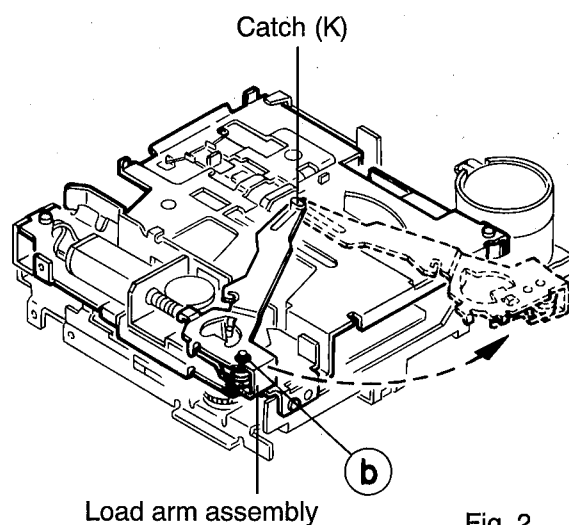

Fig. 2
■ Removing the Load Arm Assembly (See Fig. 2)
1. Using tweezers, detach the mylar washer ⑥ securing the load arm assembly and pull out the load arm assembly.